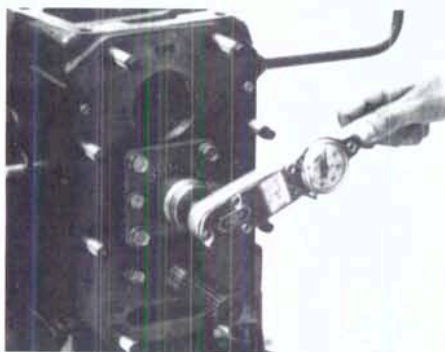

Fig. 130—Use a torque wrench as shown to check torque required to rotate differential assembly. Refer to text.
**94. BEARING PRELOAD.** To check differential bearing preload, measure torque required to rotate bevel pinion shaft and differential assembly using a torque wrench as shown in Fig. 130. Rotating torque should be 0.4-0.9 N·m (4-8 in.-lbs.) on Models L185, L245 and L285; 1.4-4.1 N·m (13-36 in.-lbs.) on Model L235; 3.9-6.4 N·m (35-66 in.-lbs.) on Model L275; 0.9-1.1 N·m (8-10 in.-lbs.) on Models L295, L305, L345 and L355. Adjust preload by changing thickness of differential carrier bearing shims until desired rotating torque is obtained.